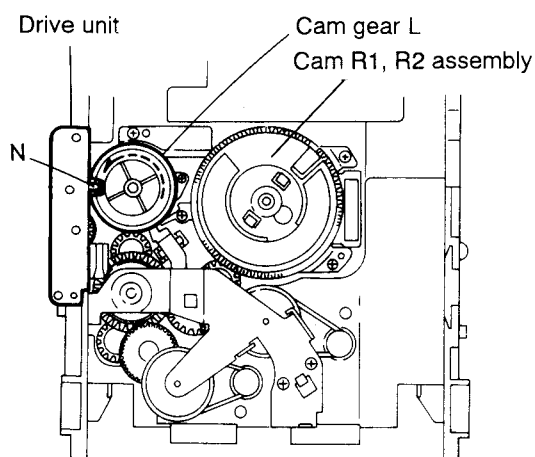

Fig. 5-30
2. While turning the cam gear L, align the pawl (N) position of the drive unit to the notch position (Fig. 5-30) on the cam gear L.